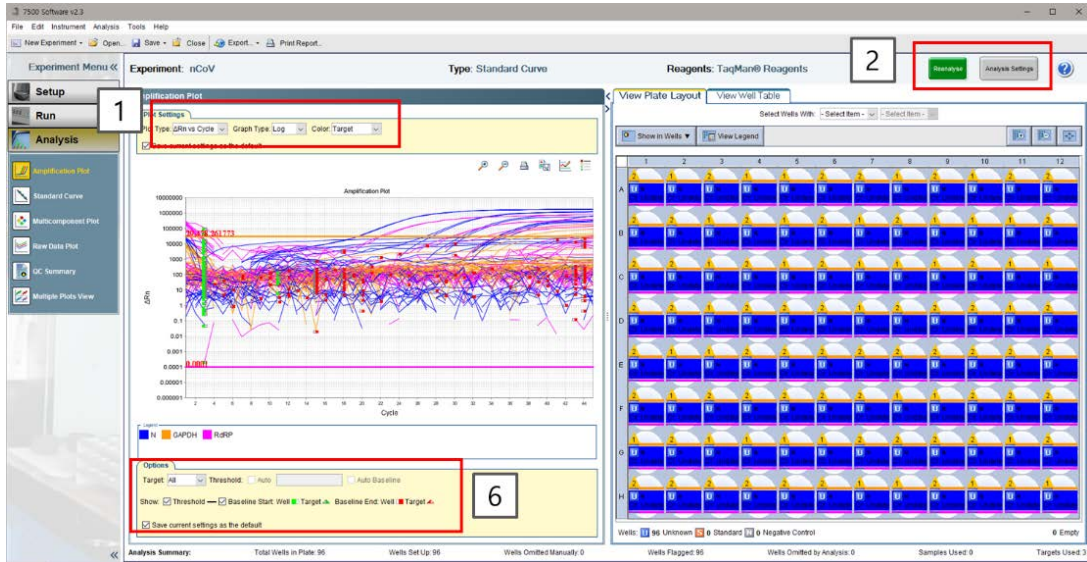
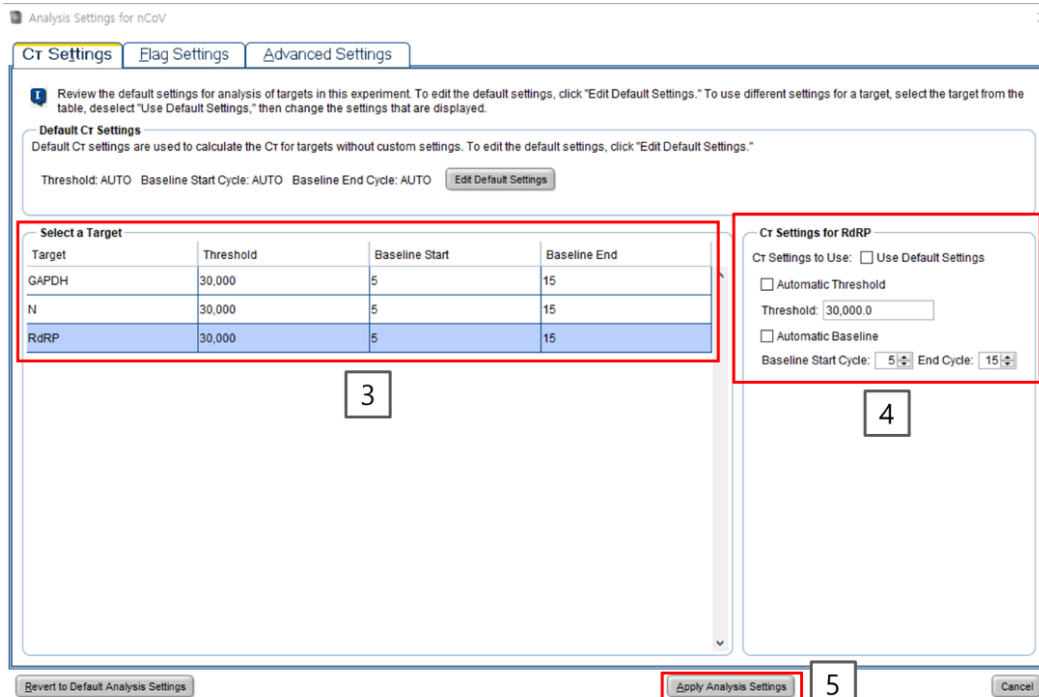

Figure 1. ABI 7500/7500 Fast Software v2.x Analysis Window
Figure 2. ABI 7500/7500 Fast Software v2.x Analysis Setting Window
2. Enter the Analysis window by clicking "**Analysis**" under the experiment menu. Set the analysis parameters as below. Refer to **Figures 1 & 2** below for the steps.
- ① Select "**ΔRn vs Cycle**" for "**Plot Type**" and "**Log**" for "**Graph Type**" (#1).
- ② Click on "**Analysis Setting**" (#2). This will open the "**Analysis Settings**" window (Figure 2).
- ③ From the "**Analysis Setting**" window, highlight all of the targets under "**Select a Target**" (#3) by dragging.
- ④ In the window "**Ct Settings for the 3 Selected Targets**" (#4), un-check all of the boxes after all targets have been highlighted. Set all baseline value to "**5**" for "**Start Cycle**" and "**15**" for "**End Cycle**" by clicking the up/down arrow.
- ⑤ Click "**Apply Analysis Settings**" (#5). This will close the "**Analysis Settings**" window and return to "Analysis" window.
- ⑥ In the Analysis Window (Figure 1) identify the "**Options**" tab (#6), located below the Amplification Plot. Select each "**Target**" individually then highlight all control wells (i.e. Positive Controls and Negative Controls on the plate by clicking on each well. Select multiple wells by holding down the "**Ctrl**" key while clicking on each well.).
- ⑦ In "**Options**" tab (#6), set the "**Threshold**" for each target above all background noise, including that observed within the earliest cycles (cycles 1~4). This is accomplished by dragging the Threshold line (arrow; in Amplification Plot window) up/down, to the appropriate setting.
- ⑧ Click the green "**Analyze**" button (#2) to apply the changes and analyze the run data.